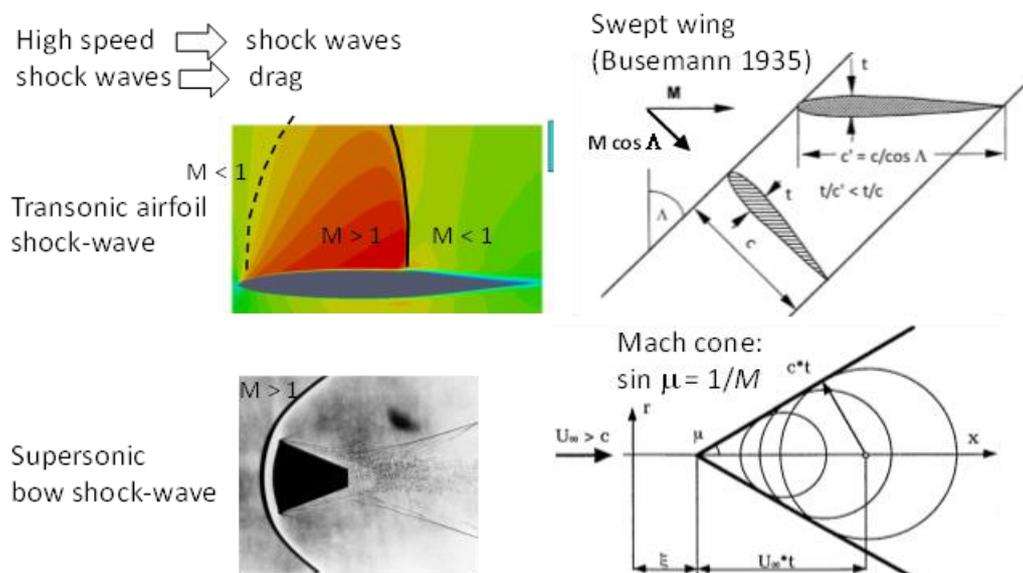

Figure 1 Basics of transonic and supersonic flow over lifting surfaces
This chapter studies 3D flow close to and over $M \approx 1$, see Fig. 1
Figure 1 shows also the Mach cone for supersonic flow, how the pressure disturbances created by the wing travel out at the speed of sound (here c) while the wing travels forward at $Mc > c$. Then the wing is felt only inside the Mach cone, with apex at the wing nose and opening angle μ ,
4. How sharp is the nose? It looks sharp in Fig. 1, yet, it has a tangent plane at the nose, but its radius of curvature vanishes. For what $0 < \rho < \infty$ is the nose